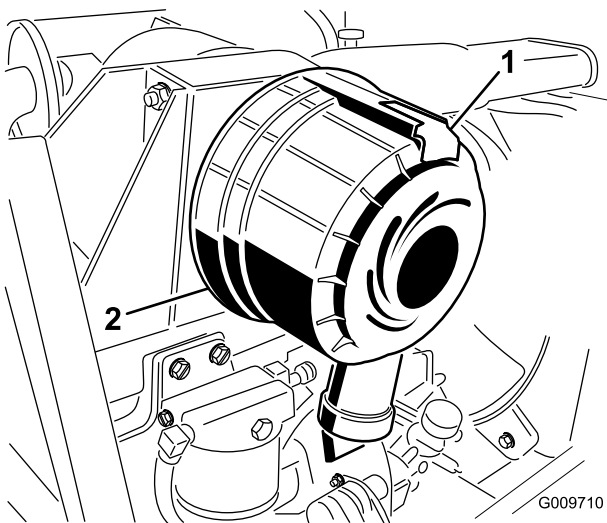

Figure 32
1. Pull the latch outward and rotate the air-cleaner cover counterclockwise (Figure 32).